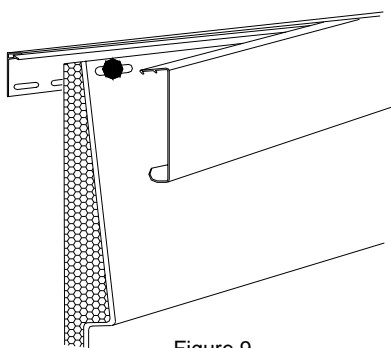

Figure 9.
- **Back Plate and Finish Board/Crown Molding.** This is the recommended installation for finishing a side wall. This will provide a secure and attractive installation. First, install back plate at the top of the wall nailing loosely approximately every 8" to 10". Measure the top course of siding leaving at least $\frac{1}{4}$ " to the back plate. Using a nail slot punch, punch slots every 16". Install the panel. Snap the finish board (or Crown Molding) into the back plate Fig. 9). To seam the finish board, cut 1- $\frac{1}{4}$ " off the snap leg of the overlapping piece. Overlap 1".